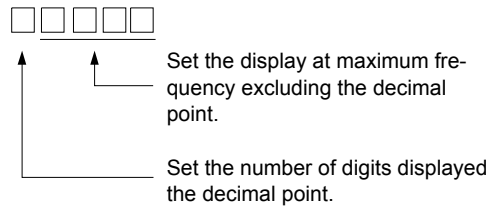

Fig 6.61 PI Scaling Setting Rule
- 40 to 39999: User desired display. Sets the maximum setting displayed using the setting rule in Fig 6.61